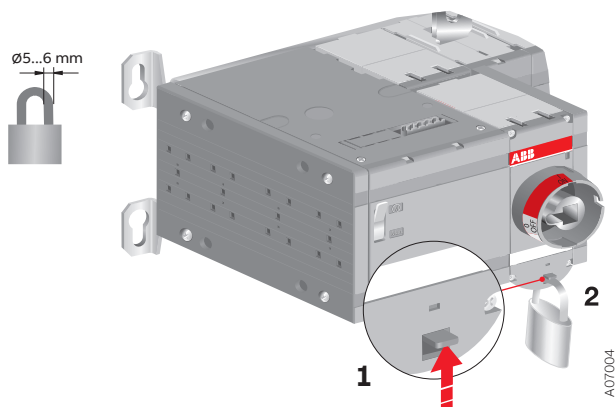

Figure 5.7 Locking the electrical operation
2. Place the padlock under the latch, see Figure 5.7.